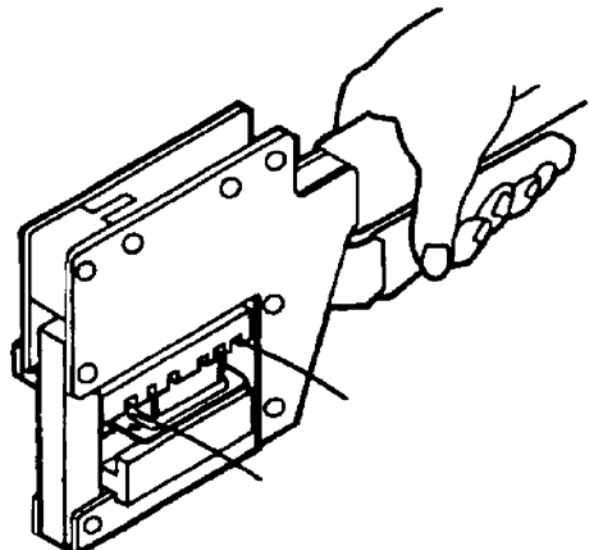

Figure 6
5. CRIMPING PROCEDURE (Figure 6)